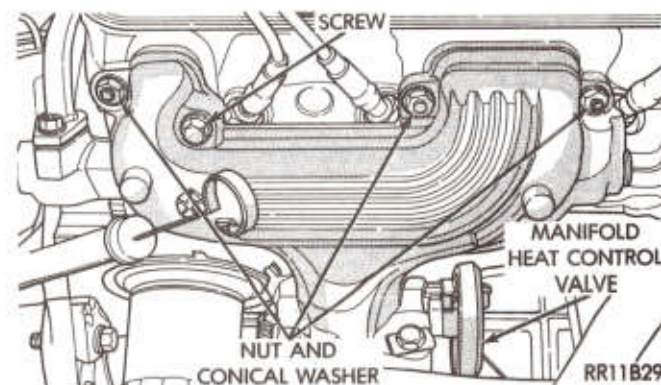

Fig. 11—3.9L Exhaust Manifold Installation (Typical) (Right Manifold Shown)
(1) Position two outboard arms of manifolds on the two studs on cylinder head. Install conical washers and nuts on studs (Fig. 11).
(2) Install two screws and conical washers at inner ends of outboard arms of manifold. Install two screws **without** washers on center arm of manifold (Fig. 11). Tighten screws and nuts, starting at center arm and working outward. Tighten screws to 20 ft. lbs. (27 N·m) and nuts to 15 ft. lbs. (20 N·m).
(3) Assemble exhaust pipe to manifold, and secure with bolts, nuts and washers tighten nuts to 25 ft. lb. (34 N·m).